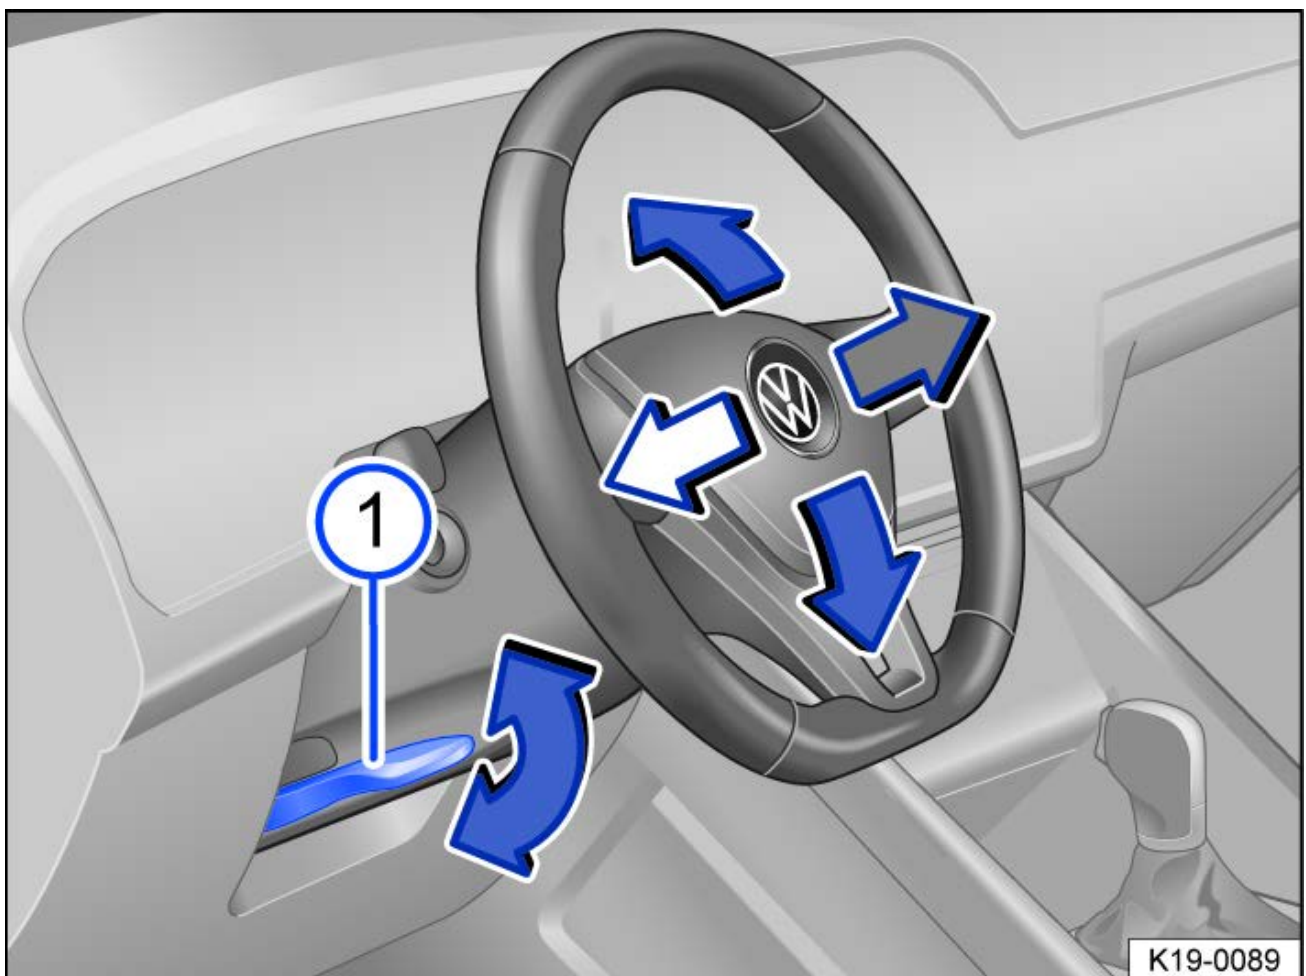

Fig. 1 Under the steering wheel in the steering column trim panel: lever to adjust the steering wheel position manually.
- If the power sunroof still cannot be closed, swipe forward over the function key within 5 seconds → *fig. 1* and hold until the power sunroof is completely closed (→ *Sunroof, Operation*).
—Tilt the lever → fig. 1 (1) downward.
- Always push the lever → fig. 1 upward in its locked position after adjusting so that you do not change the steering wheel position unintentionally while driving.